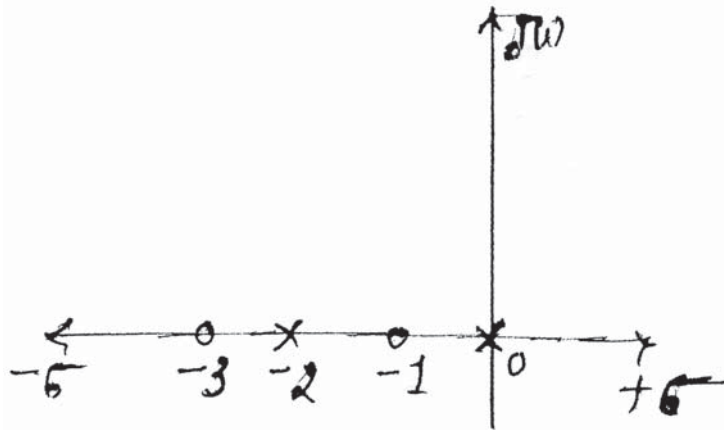

Fig. 3
- d) Pole-zero diagram of an impedance function is shown in Fig. 3. If  $Z(-4) = \frac{3}{8}$  obtain the function and realize it into a Cauer – II form. 5